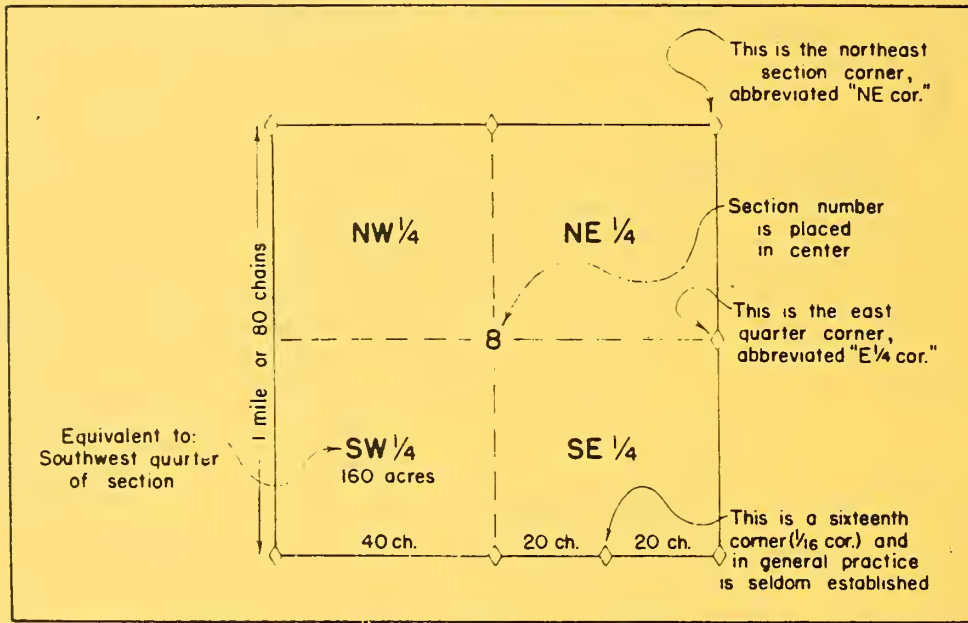

Figure 1.--Subdivision of section into quarter sections.
32.2 - Section Subdivisions. The section is divided into quarter sections (which are not shown on field maps), as shown in figure 1.